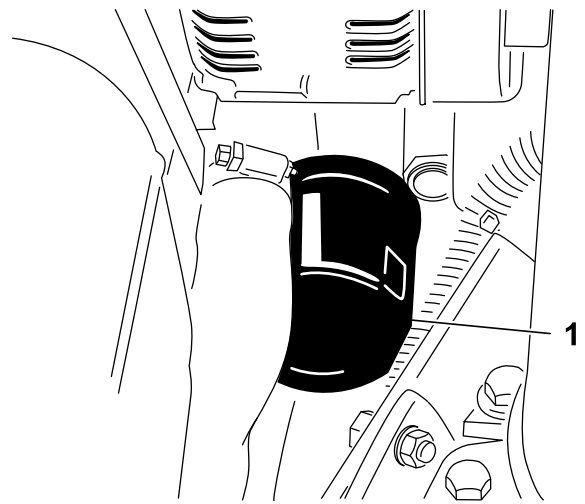

Figure 42
3. Remove the oil filter (Figure 42).